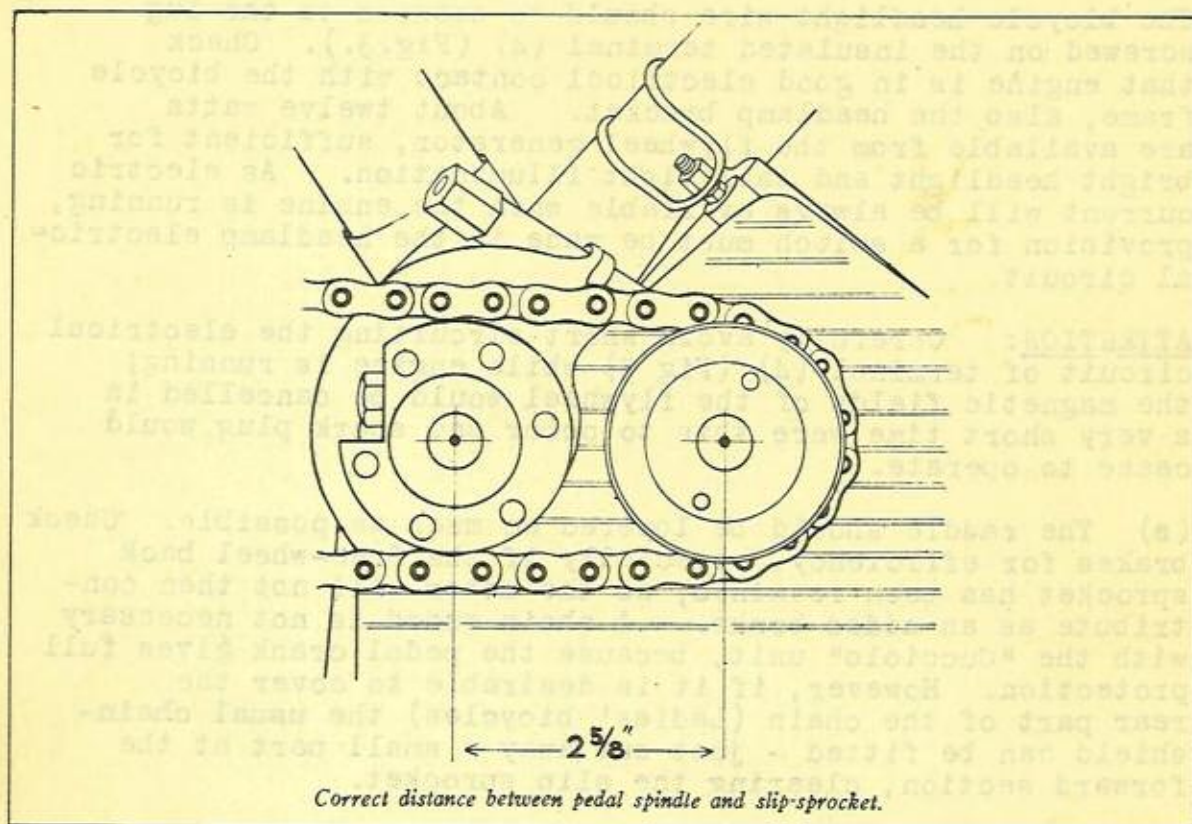
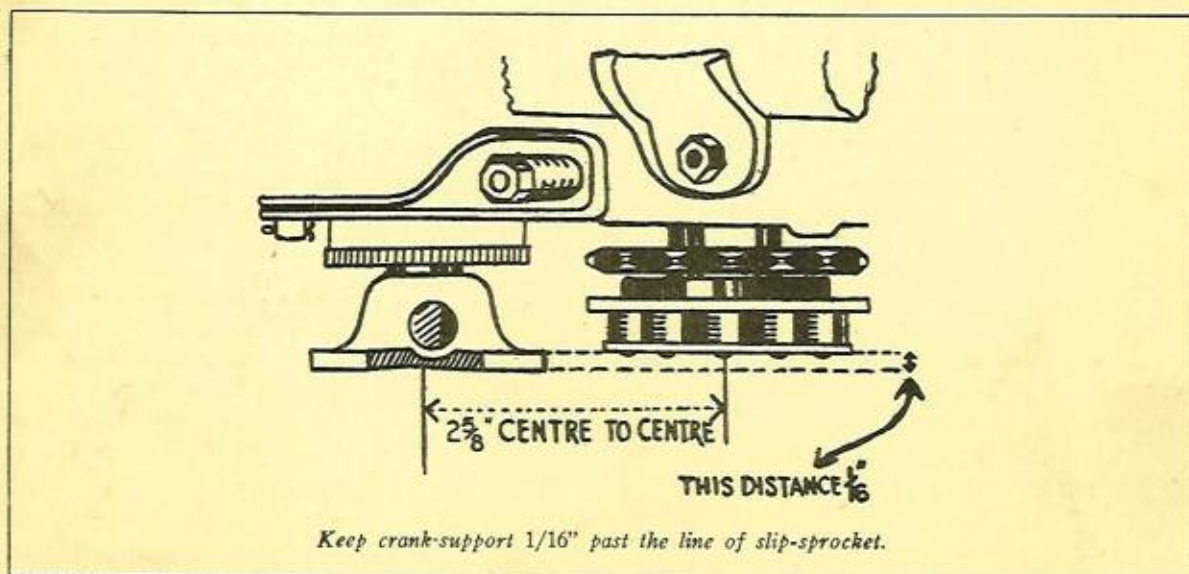

FIG.4
FIG.5
valve operating rods of the motor shall not touch or be too near to the bicycle down tube (4). (A clearance of $3/32"$ is sufficient). If the clearance is not sufficient, an extra layer or two of red fibre or metal packing can be inserted at the engine recess. Attention must also be paid to the distance between centre of the slip sprocket (See Fig 4), and the centre of the bottom bracket spindle, which is $2\frac{1}{8}"$. If distance is not correct either the inner teeth of the crank-wheel will engage too deeply into the slip sprocket causing stiffness in pedalling or will not engage enough, resulting in undue strain and eventual damage to the slip sprocket rollers. It is equally important that the crank support be $1/16"$ past the line of the slip sprocket as shown in Fig 5. By sighting from the top, correct alignment can be checked. Twisted frames or lugs sometimes require uneven packing of the engine so that this will line-up with the chain. (See Fig 2 and 5). As an example, the thicker packing on the right will move the front of the engine to the left, and vice-versa. It is seldom necessary to pack unevenly. If additional packing is necessary, red fibre or metal, such as aluminium or copper, should be used.
The crankwheel support may now be assembled onto the right end of the "Cucciolo" spindle, making sure to fit the cotter pin carefully and tightly. The support must be $1/16$ " past the line of the slip sprocket, as shown in Fig. 5. in order that the toothed insert, runs freely and true in the centre of the rollers of the slip sprocket.